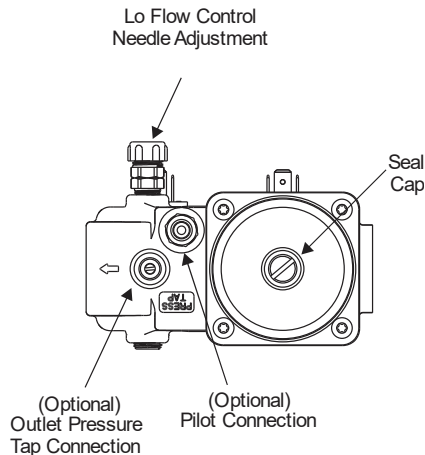

Figure 4: Underside of Valve with Bottom Adjust Regulator
9. Connect the pilot tubing (when necessary) to the threaded pilot connection on the underside of the valve body (Figure 4) and run the tube to the pilot burner within the appliance. Connect the pilot tube to the valve with an optional compression fitting.
11. If you desire to measure the outlet pressure, use the bottom cast pressure test fitting (see Figure 4) or use the Y99AX pressure test fitting (see Figure 3) and an approved pipe joint compound on the male threads and replace the marked pressure tap plug, which is optional on the inlet or outlet of the valve body. Screw the fitting into threaded port of the valve, which replaces the pressure tap plug.
16. If installing a valve with a pressure regulator, set the valve to the desired outlet pressure. See the *Regulator Adjustment* section for specific adjustment procedures. After setting the valve outlet pressure, ensure that the leak-limiting seal cap is replaced (Figure 4).
To adjust the outlet pressure, remove the leak-limiting seal cap to expose the adjusting screw (see Figure 4). Turn the screw (using a suitable screwdriver) in a clockwise direction to increase or in a counterclockwise direction to decrease the outlet pressure of the valve.